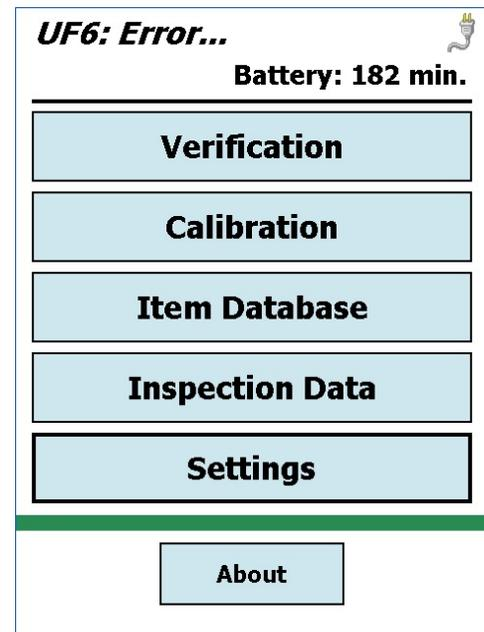

Figure 17. Main Menu.
- When the red Launcher screen is displayed, tap **UF6 Enrichment** to start the Micro-UF6 software application.⁶ Figure 17 shows the program's main menu. The program requires 15–20 seconds to initialize and become responsive to commands. Until the unit is fully initialized, the storage capacity and battery readouts may not display accurate values. Note that because the detector is warm, the hardware status line at the top of the touchscreen will read **Error**, as shown in Fig. 17.